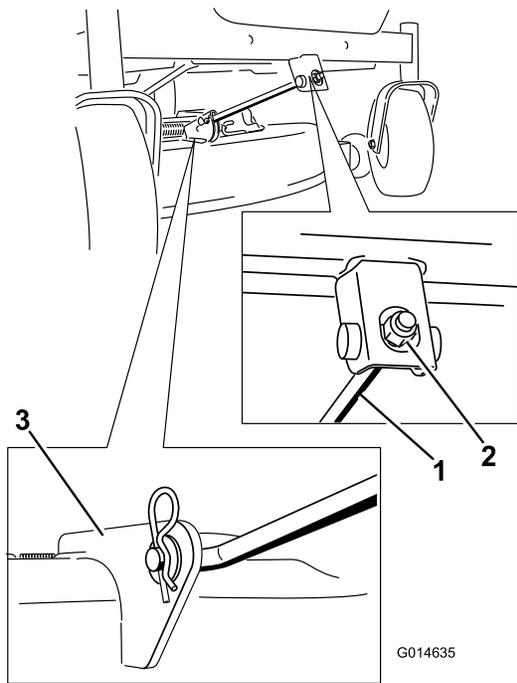

Figure 58
4. Remove the hairpin cotter from the front support rod and remove the rod from the deck bracket (Figure 58).
- Attach the front support rod to the mower deck with the clevis pin and hairpin cotter (Figure 58).